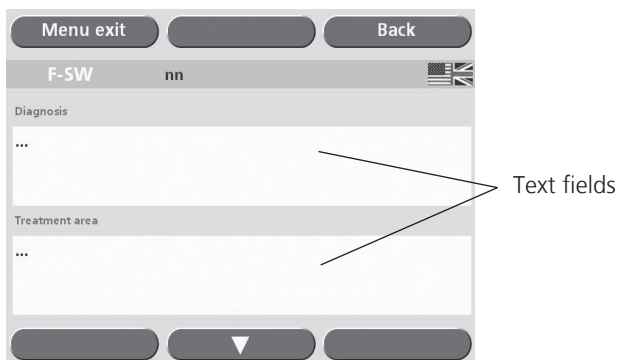

Fig.3-17 Patient record – treatment details
A patient record consists of treatment details (Fig.3-17) and a table of treatment parameters that is created by the instrument automatically (Fig.3-18).
- To add additional treatment details, touch the text field (Fig.3-17) to display the on-screen keyboard.
The treatment parameters have been loaded successfully when the patient’s name is displayed on the grey status bar on the protocol screen (Fig.3-17).